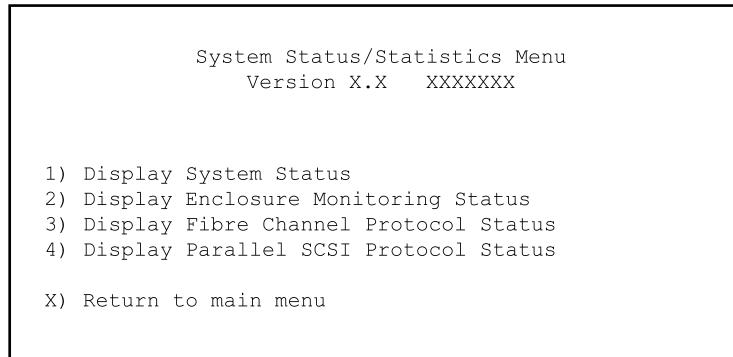

Figure 102: System Statistics menu
In the System Utility Menu, select **System Statistics Menu (1)** to view system status information (see Figure 102).